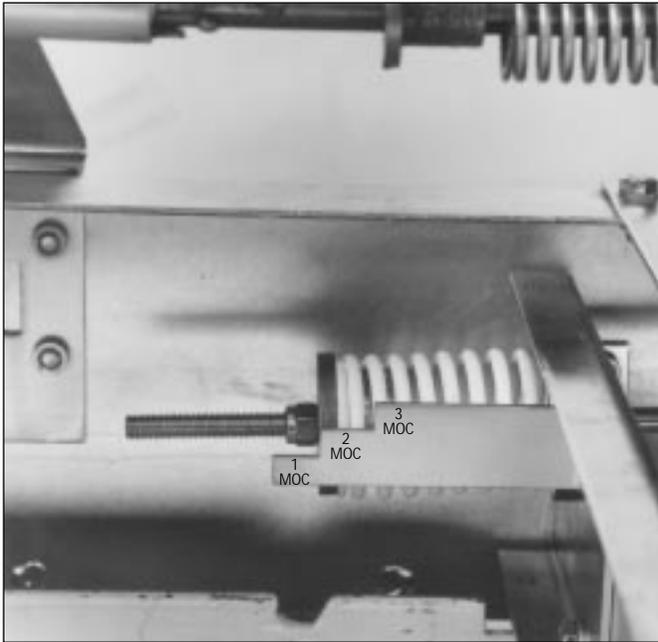

Figure 4-5 Drive Spring Shown Adjusted for 2 MOC Switches
- Step 5:** Refer to Figures 4-5 and 4-6 to see the drive spring adjusted for 2 installed MOC switches and 3 installed MOC switches respectively.